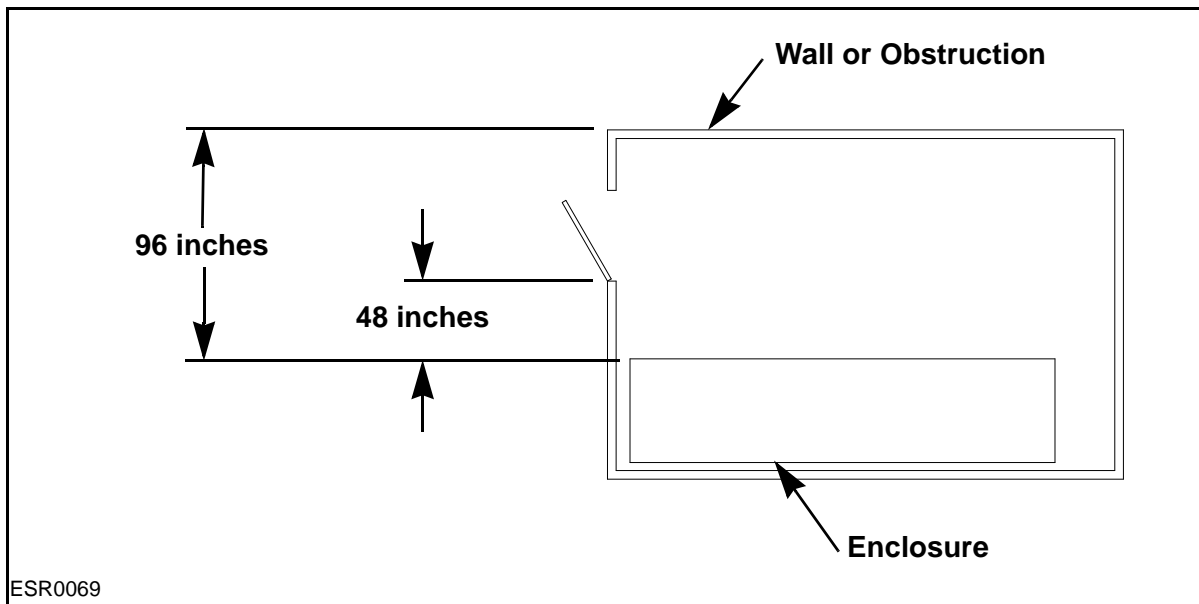

Figure 5-6: Workspace When There Is One Enclosure and One Doorway
- A minimum of 48 inches is required between the front of the enclosure and the closest doorway opening when the equipment in the enclosure is 151 to 600 volts to ground. See **Figure 5-6**.
- A minimum of 96 inches is required between the front of the enclosure and a wall or obstruction when the equipment in the enclosure is 151 to 600 volts to ground. See **Figure 5-6**.